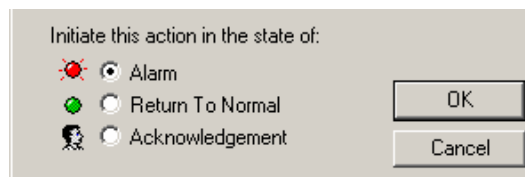

Figure 2.30. Selecting an Alarm Action Attribute
8. To set the **Action Attributes**, click the ... button in each row. Select when to initiate each action: in the state of an **Alarm**, a **Return to Normal**, or an **Acknowledgement**, as shown in **Figure 2.30**.